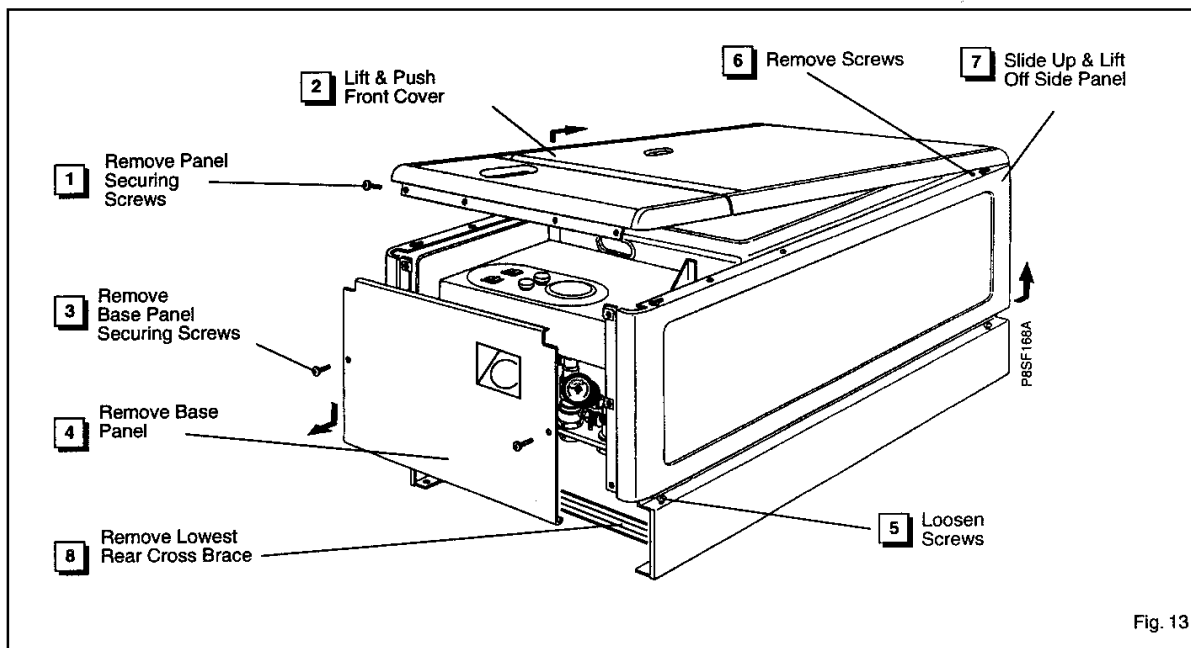

Fig. 13
Note: The Puma combination boiler range is fitted with a diverter valve design which has a manual operation lever to aid filling. To ease filling of the pump manifold an air bleed valve is fitted to the diverter and must be opened during filling until water flows out. The valve should then be closed. See Fig.13.
- a) Remove the white front case as follows; undo the two securing screws at the base of the panel, pull the base of the panel forward approx. 50mm and lift off the supporting top hooks. (See Fig. 13)